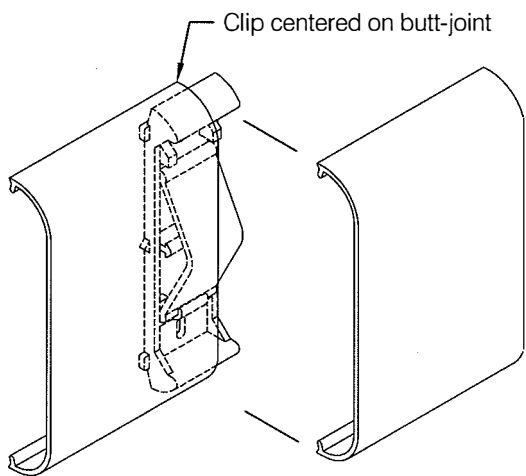

fig 7
- At each WGV-6 cover butt-joint, see **fig 7**
Step 7: Measure between accessories and cut the WGV-6 vinyl cover. Miter cut the WGV-6 for all inside corners and special angles not accommodated by the molded accessories. Install a Red-E-Clip® retainer centered at each WGV-6 butt-joint location, see **fig 7**.